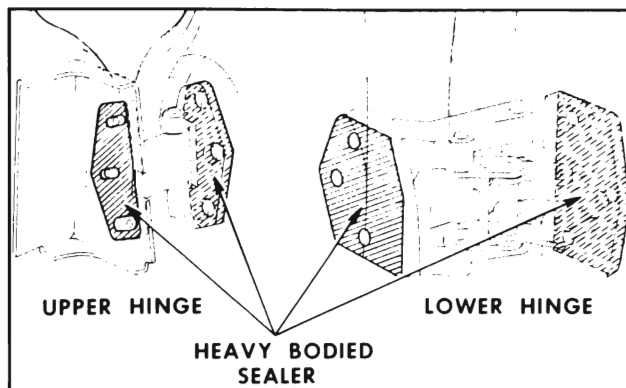

Figure 2-31—Rear Door Hinge Anti-Squeak and Sealing
2. Apply a coat of heavy-bodied sealer to attaching surfaces of hinge straps or corresponding surfaces of door or body. (See Figure 2-31)